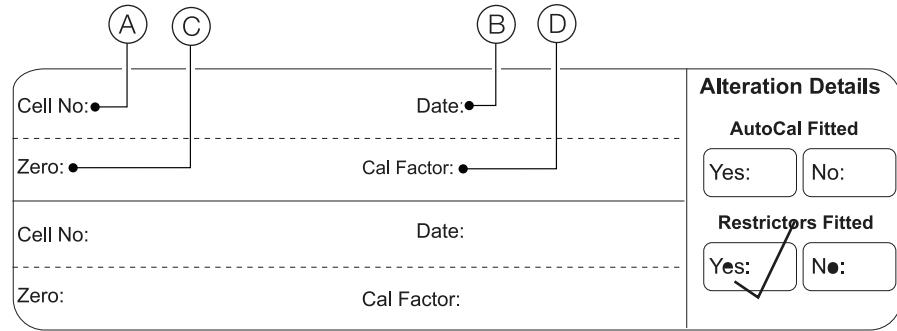

Fig. 4.5 Commissioning Label
Commissioning Label (see Fig. 4.5) contains the cell number (A), date (B), cell zero (C) and the calibration factor value (D) required to calibrate the probe for the zirconia cell fitted – refer to Programming Guide COI/AZ30E-EN, section 7 for calibration procedures.